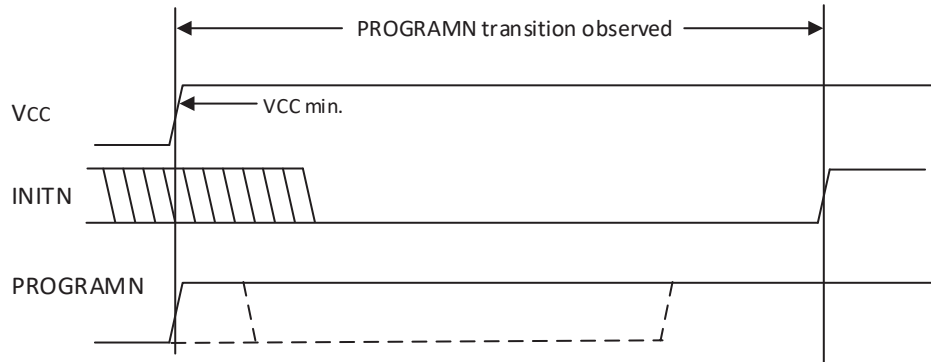

Figure 4.5. Period PROGRAMN is Always Observed
- PROGRAMN is active during power-up, even when it is reserved as a general purpose I/O. Do not allow any input signal attached to PROGRAMN to transition from high to low at a frequency greater than the VCC (min) to INITN rising edge time period. High to low PROGRAMN assertions more frequently prevent the MachXO3D device from configuring, causing the FPGA to remain in a continuous RESET condition. See Figure 4.5.